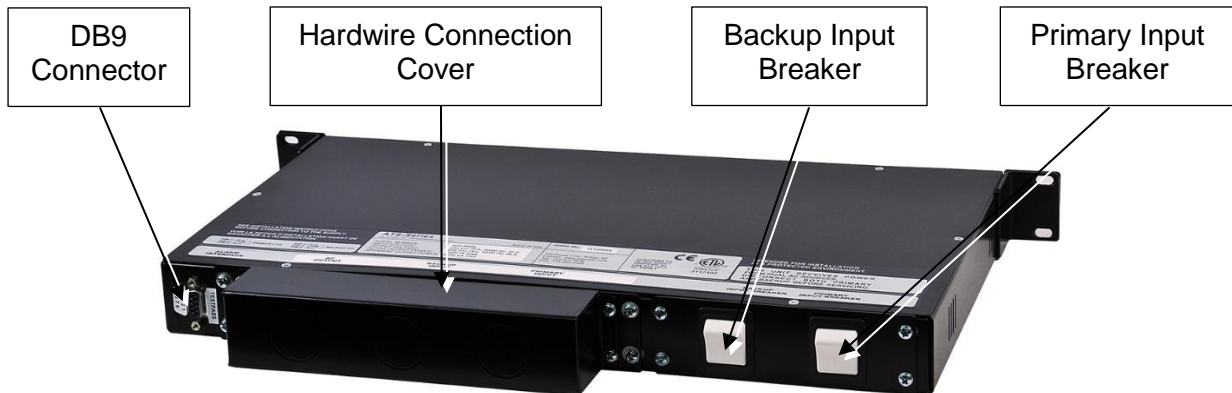

Figure 5: Rear view of ATS-800-6000 Hardwire unit showing DB9 connector, Primary and Backup circuit breakers and cover over Hardwire connections
1.62 REAR VIEW OF MC80043 UNIT WITH HARDWIRE INPUT AND OUTPUT CONNECTIONS COVER (See Figure 5)